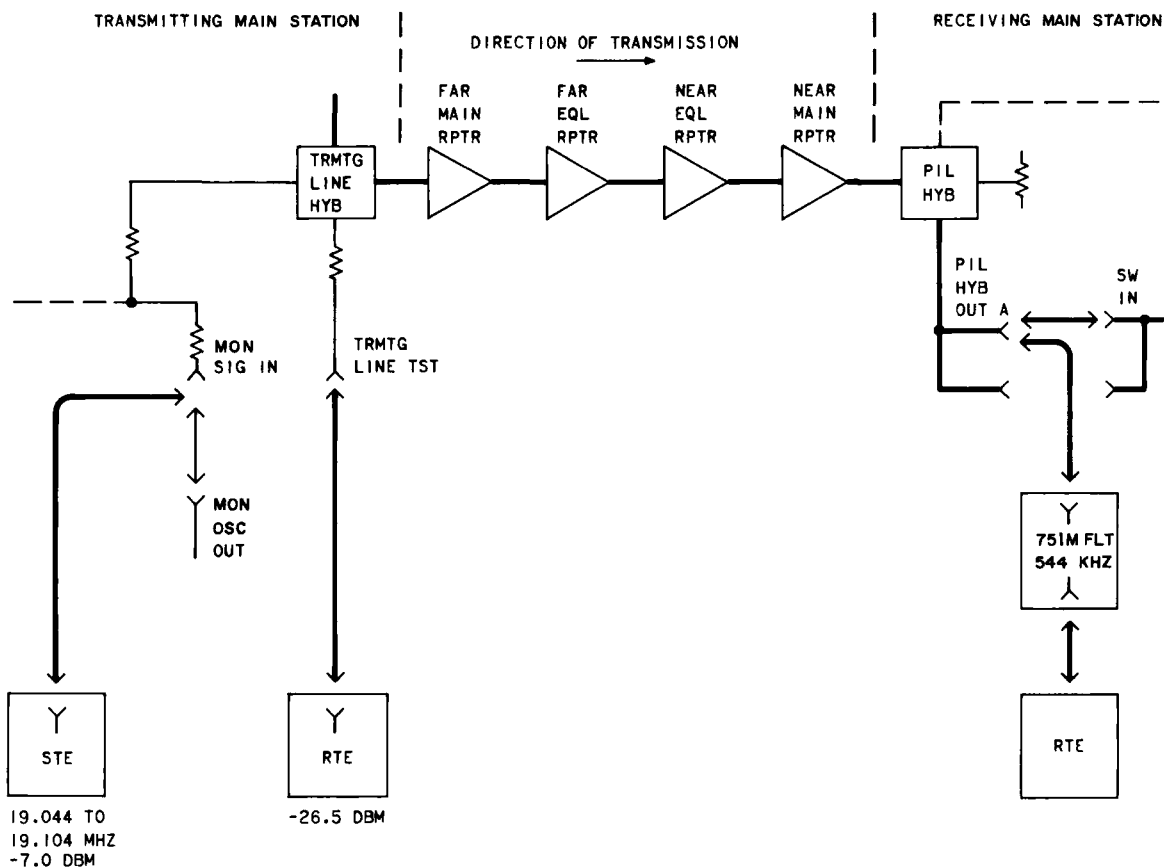

Fig. 7—Test Arrangement for Identification of Defective Repeaters
- 3 Connect the 19.044-MHz signal at -7 dBm to the MON SIG IN jack (Fig. 7).
- 7 Connect the PIL HYB OUT A jack to the 751M filter input, and connect the filter output to the RTE input (Fig. 7).